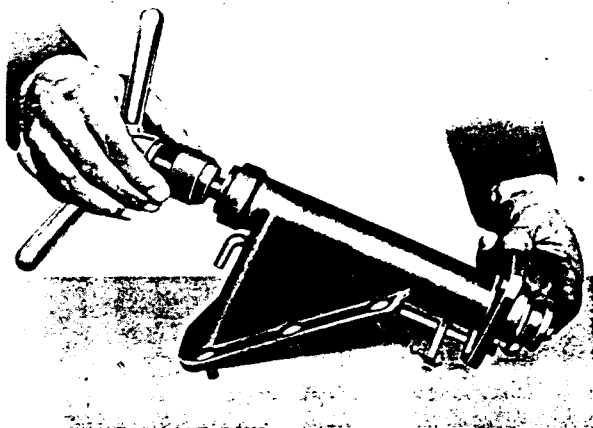

FIG. 7.
FT.13, as shown in Fig. 7, locating retainer disc (7), concave upwards, below top cup.